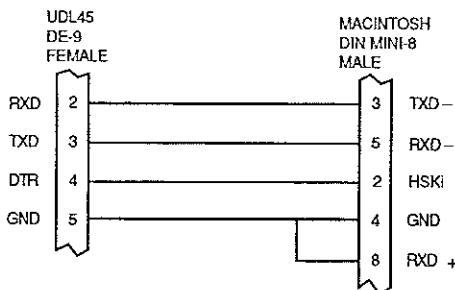

Figure 5-2. UDL45-to-Macintosh RS-232 Cable
The signal connections between a UDL45 RS-232 port and an Apple Macintosh * or an IBM PC/AT * or compatible personal computer are shown in figures 5-2 and 5-3, respectively.
- (1) Connect the UDL45 to the host computer according to figures 5-2, 5-3, or other applicable information.
- (2) Set the computer's serial port to 8 data bits, no parity, and 2 stop bits. If this setting cannot be made, communications with the UDL45 will not be possible.
- (3) Using the BAUD auxiliary function, set the UDL45 data rate to match the data rate of the host computer. See Section 3.5.5.
- (4) Using the commands as described in Section 5.3, verify communications with the UDL45.
- (5) If when trying to communicate with the UDL45 the REM annunciator flashes consistently and cannot be cleared, perform the following steps:
Connector pins not specified in figures 5-2 and 5-3 are not connected.